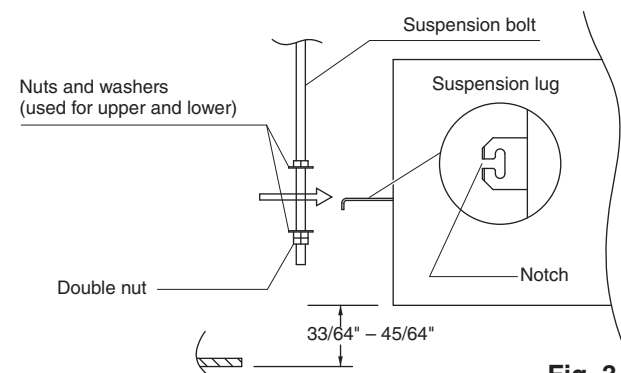

Fig. 3-32
- (3) Thread the 3 hexagonal nuts and 2 washers (field supply) onto each of the 4 suspension bolts as shown in the diagram. Use 1 nut and 1 washer for the upper side, and 2 nuts and 1 washer for the lower side, so that the unit will not fall off the suspension lugs. (Fig. 3-32)
- (4) Adjust so that the distance between the unit and the ceiling bottom is 33/64" to 45/64". Tighten the nuts on the upper side and lower side of the suspension lug. (Fig. 3-32)
- (5) Remove the protective polyethylene used to protect the fan parts during transport.